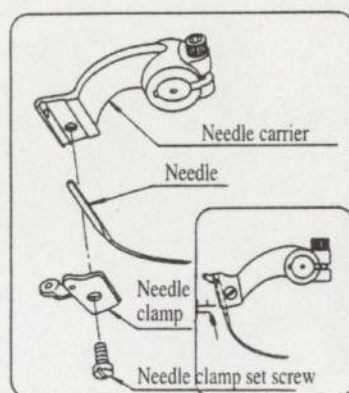

FIG.8
4. REPLACING NEEDLE (FIG.8)
Raise needle to its highest position by turning the wheel clockwise and loosen the needle clamp set screw (1) about two round, then replace the needle and insert the new needle into the needle carrier (2) and push it up as far as it will go. Install the needle clamp and tighten the needle clamp set screw. (Please refer to Fig.8)